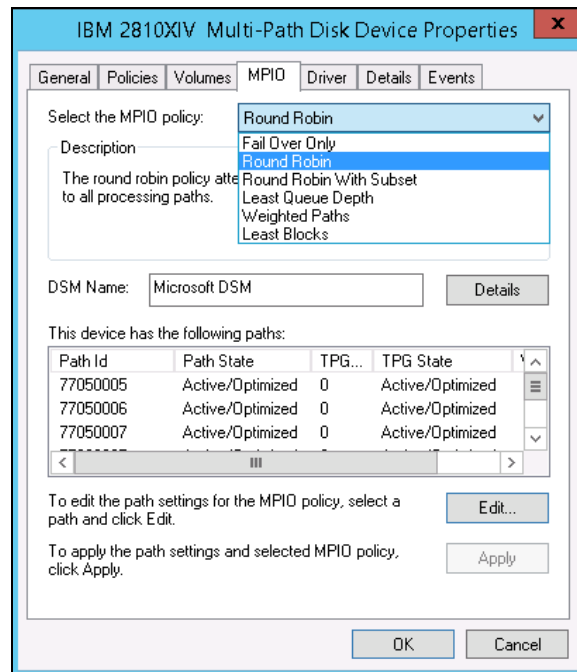

Figure 3-6 MPIO load balancing
4. Click the MPIO tab to set the load balancing, as shown in Figure 3-6.